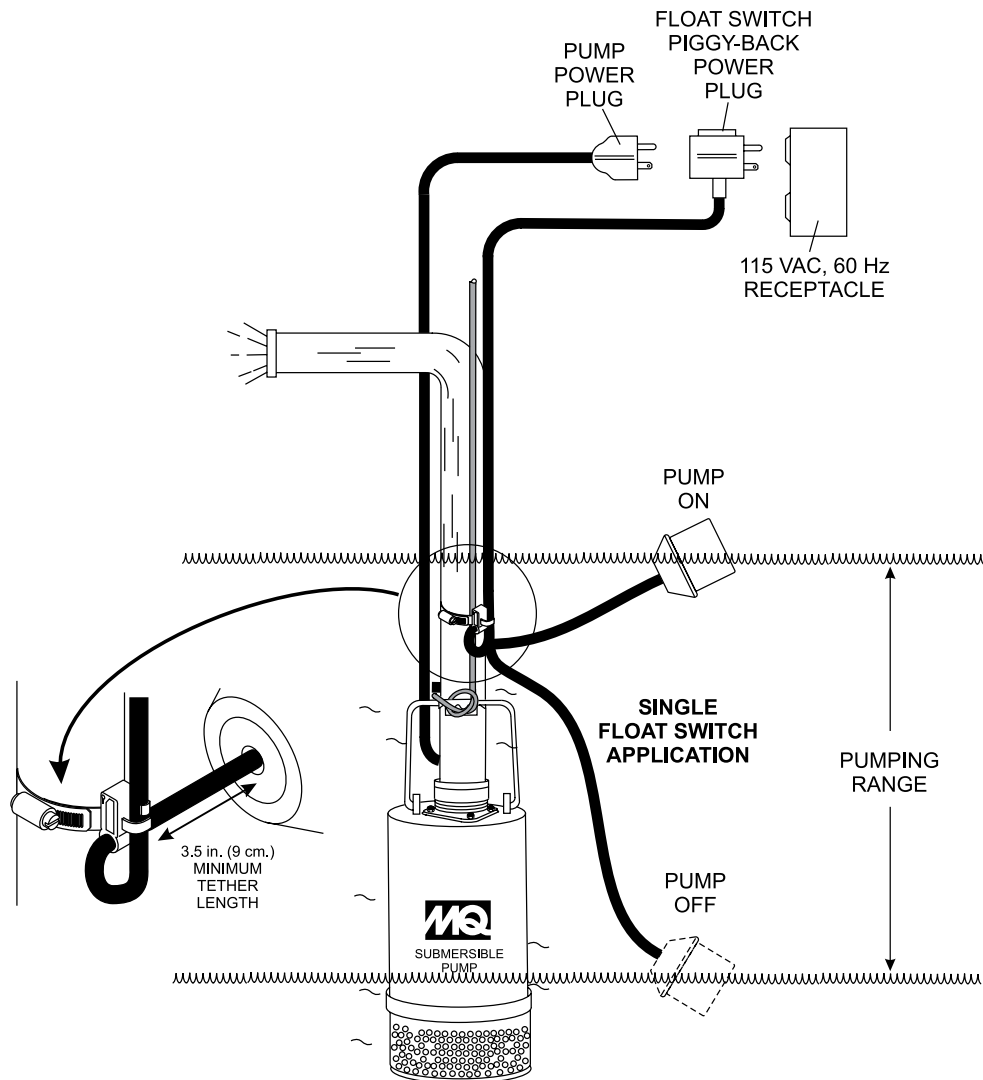

Figure 6. Single Float Switch Application Diagram
Single or dual control float switches (Figure 6) can be used for the unattended operation of the submersible pump. When using the piggy-back power configuration (plug), the pumps do not require the use of a control box. In this configuration (piggy-back), the SW-1 (single float switch) or SW-2 (dual float switch) are required. The illustration below is an example of a single float switch application.
1. Determine the required cord tether length as shown in Figure 6 and Table 3.
2. Place the cord into the clamp as shown in Figure 6.
3. Secure the clamp to the discharge hose as shown in Figure 6. **DO NOT** install cord under hose clamp.
Figure 6 shows a single float switch application. For dual float switch capability, use a Model SW-2A mercury type float switch.